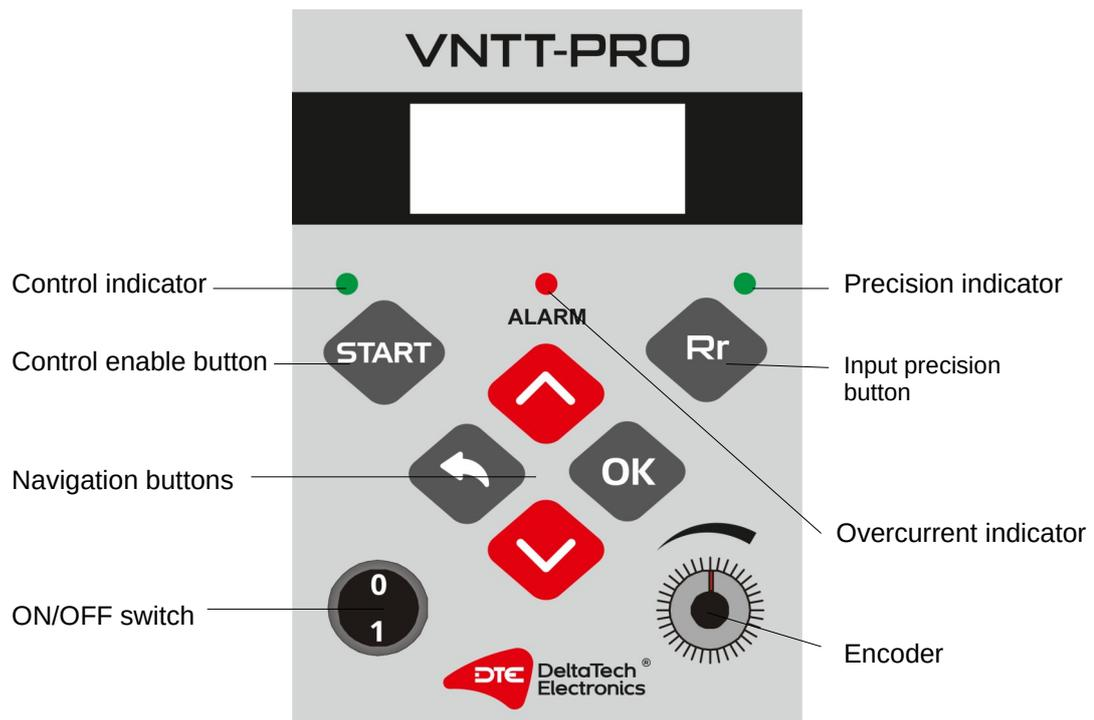

Figure 4.1
The device is operated with the panel shown in Figure 4.1.
After connecting the device to power source and switching it ON (see Fig. 4.1) the device starts with its splash screen.
To enable lever control press the start button . Enabled control is signaled by an indicator. (see Fig. 4.1).
1.0[%] or, after pressing the input precision button , in steps of 0.1[%] which gives a more accurate lever movement. Current input precision is indicated by an indicator (see Fig. 4.1). The indicator lights up when adjustment is performed in steps of 0.1[%].
To perform this test press the  button. When the control is enabled, the control indicator lights up (see Fig. 4.1).